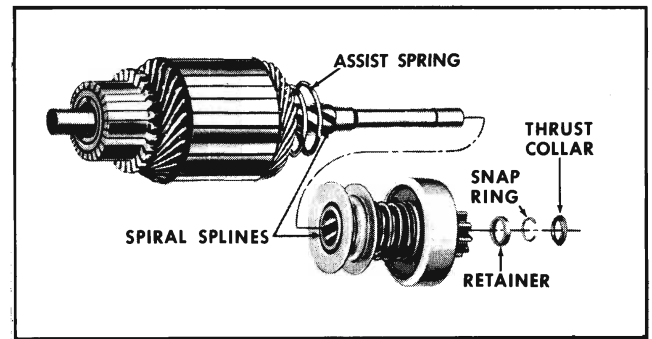

Fig. 11-7 Armature and Overrunning Clutch Assembly
- a. Slide thrust collar (Fig. 11-7) off end of armature shaft.